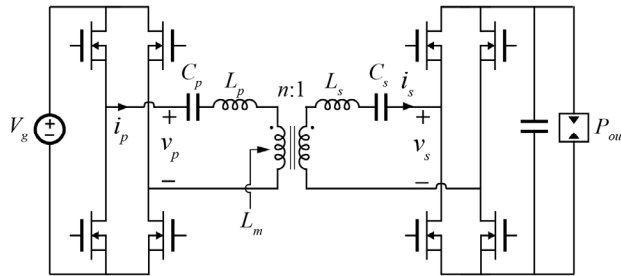

Fig. 1: Series Resonant Converter
- Select a state vector $\mathbf{x}(t)$. Choose any appropriate vector which contains a minimum number of states as determined in (a) and contains only real capacitor voltages and inductor currents which are measurable in the full system of Fig. 1.